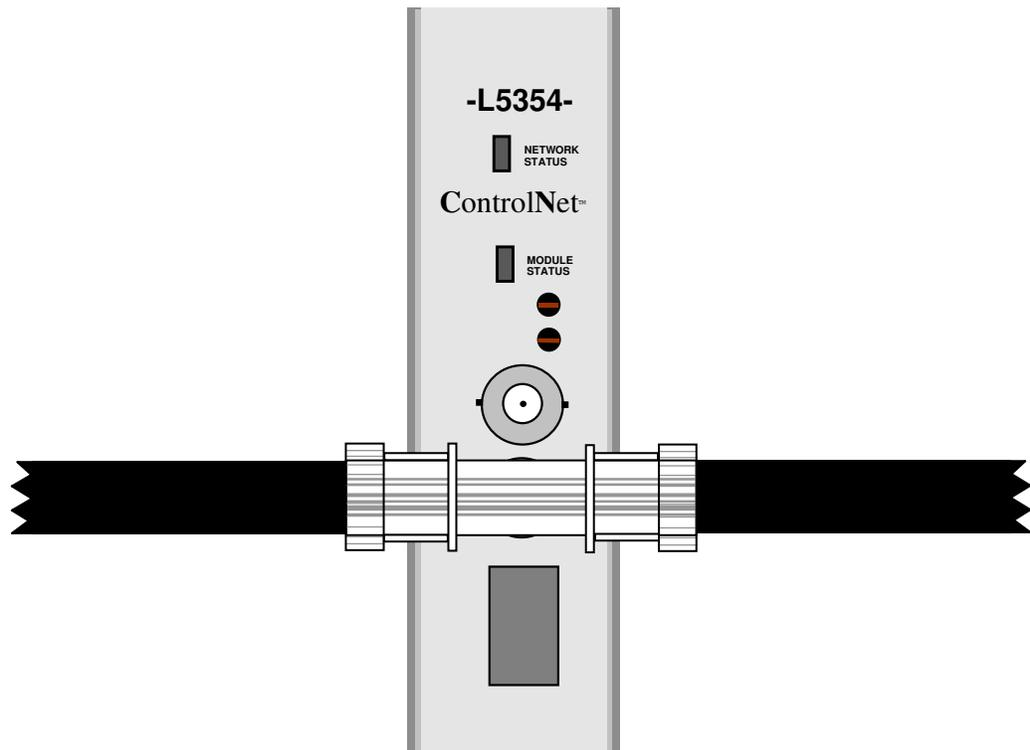

Figure 3. ControlNet connections to the L5354
- Make all user-wiring connections. Refer to Wiring Diagram, Figure 3.